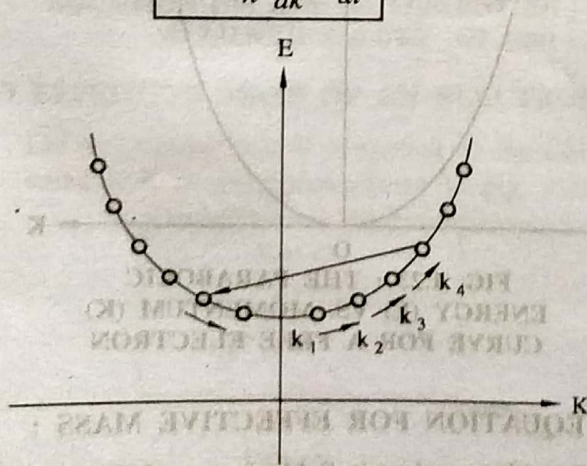

FIG. 1.24 : E - k DIAGRAM OF CONDUCTION BAND
- One can determine the energy gained by the electron by considering the E - k diagram of the conduction band as shown in Fig. 1.24.
- The accelerated electron coincides with lattice vibration and hence, random scattering of electrons takes place. The scattered electron takes into another k value as shown in Fig. 1.24.